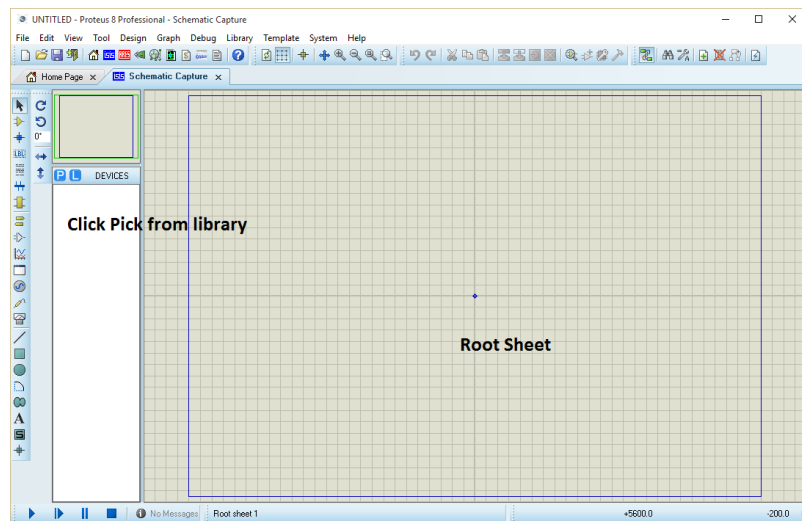

Figure 1.10 – Proteus ISIS overview of window
- Launch Proteus from start menu or by desktop icon. Proteus layout shown below will appear on the screen as shown in figure 1.10. There is a root sheet to draw circuit. The device window will initially be empty. You need to pick components from the library. Proteus component library is equipped with lots of components and ICs including microcontrollers. To pick necessary components required for a circuit, click on small **P** in device window.